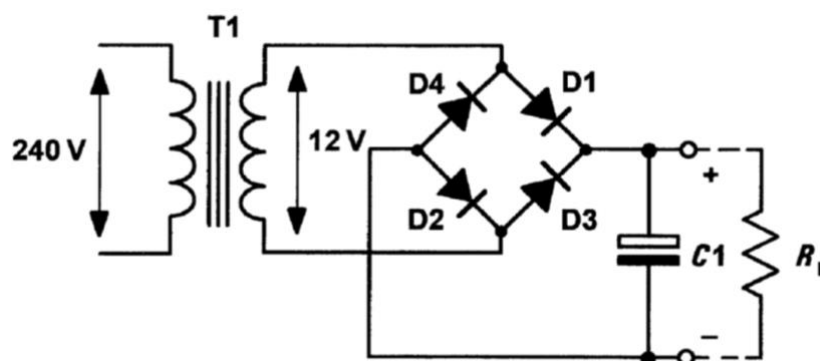

Figure 1.16 Bridge rectifier with reservoir
- Fig. 1.16 shows how a reservoir capacitor (C1) can be added to maintain the output voltage when the diodes are not conducting.